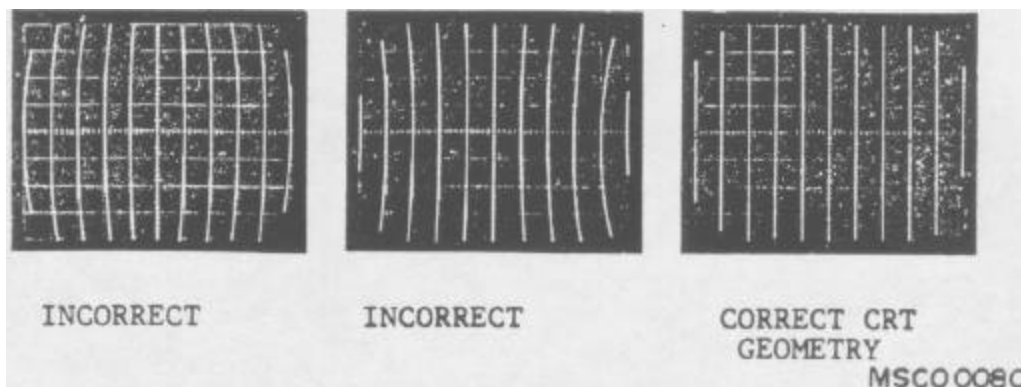

Figure 7. Crt geometry waveform.
(3) If TI crt does not display straight vertical division lines as shown in figure 7, perform b below.
(4) Disconnect equipment.
b. Adjustments. Adjust TI GEOM ADJ R861 (fig. 2) for TI crt display of straight vertical lines parallel to the vertical division lines, as shown in figure 7.